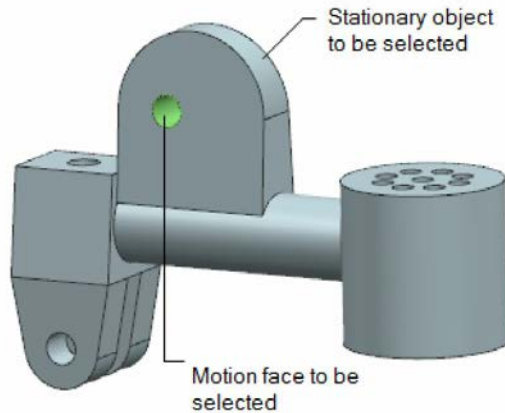
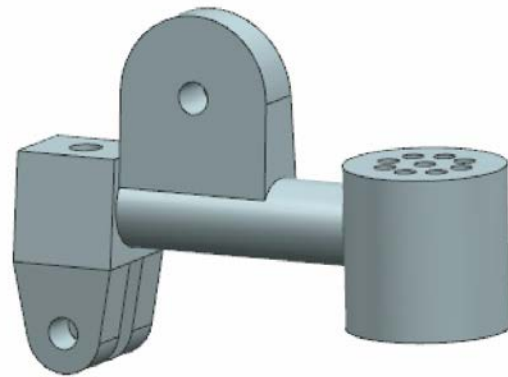

Figure 13-135 Objects to be selected
Figure 13-136 Resultant model
- k. Make the hole coaxial to the curved face of the single flange using the **Make Coaxial** tool, refer to Figure 13-135.
- Select the inner face of the hole, refer to Figure 13-135; the **Face** button in the **Stationary Face** rollout is activated and you are prompted to select the object to be kept stationary.
- Select the curved face of the flange, refer to Figure 13-135; a preview of the resultant model is displayed in the graphics window. Next, choose **OK** to accept the changes. The resultant model is shown in Figure 13-136.